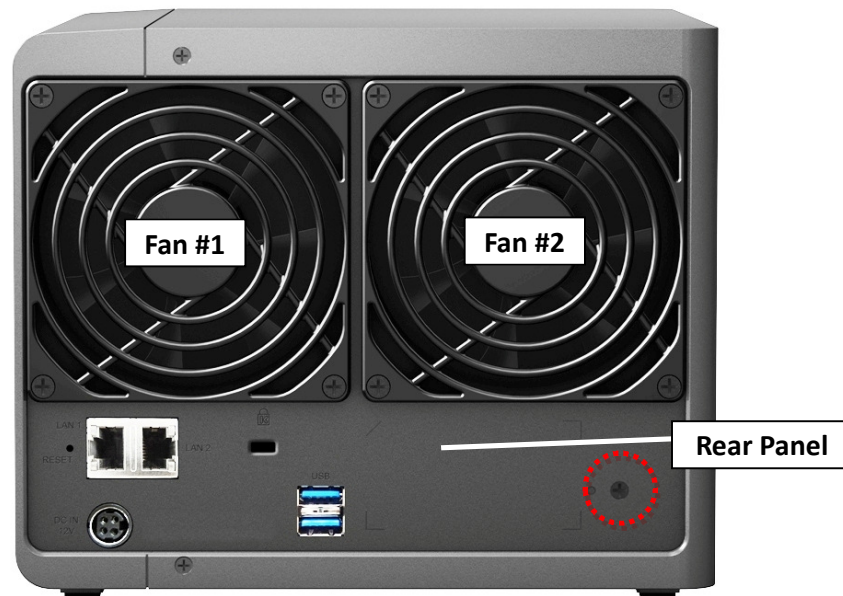

Fig. 14
- 2.1.8 Release the screw on the rear panel (Marked by the red circles). (Fig. 14)